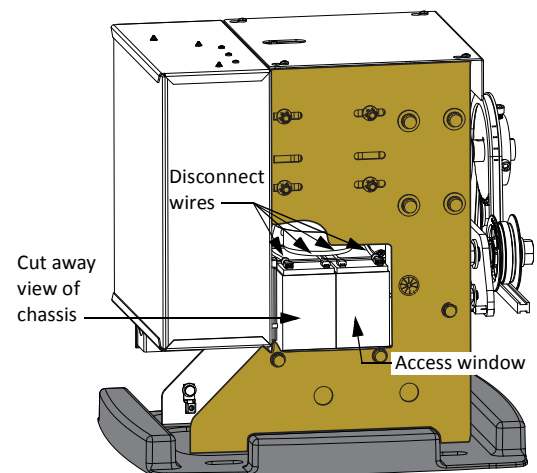

Figure 6-18.
2. To access the 8Ah batteries and disconnect its wires, cut the two black wire ties and slide the 8Ah batteries through the access window. See Figure 6-18. Another option is to remove the four screws that hold the control box to the chassis. Refer to Figure 2-9.